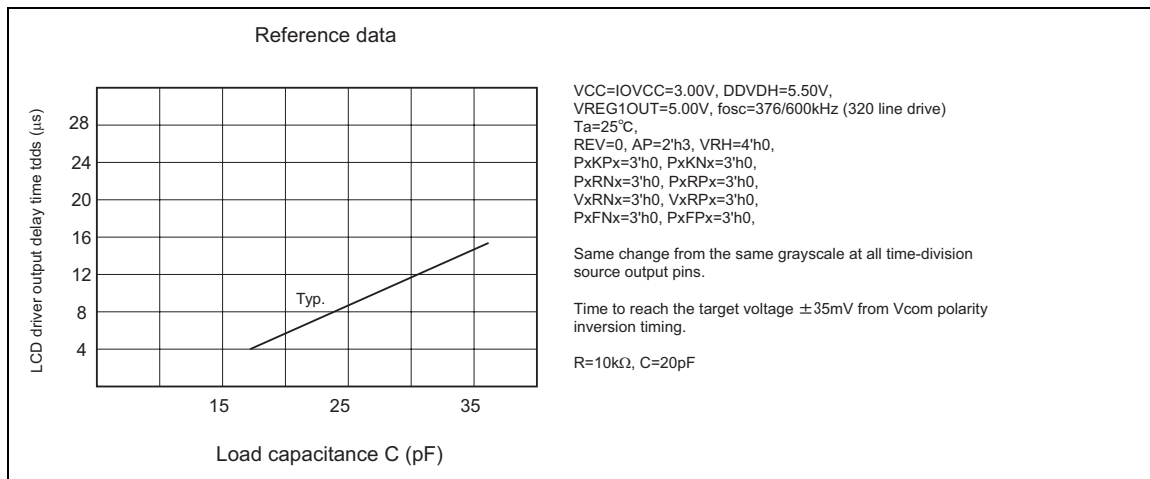

Figure 92
p. 190 Figure 92 Error correction (tDD on x-axis → tdds)